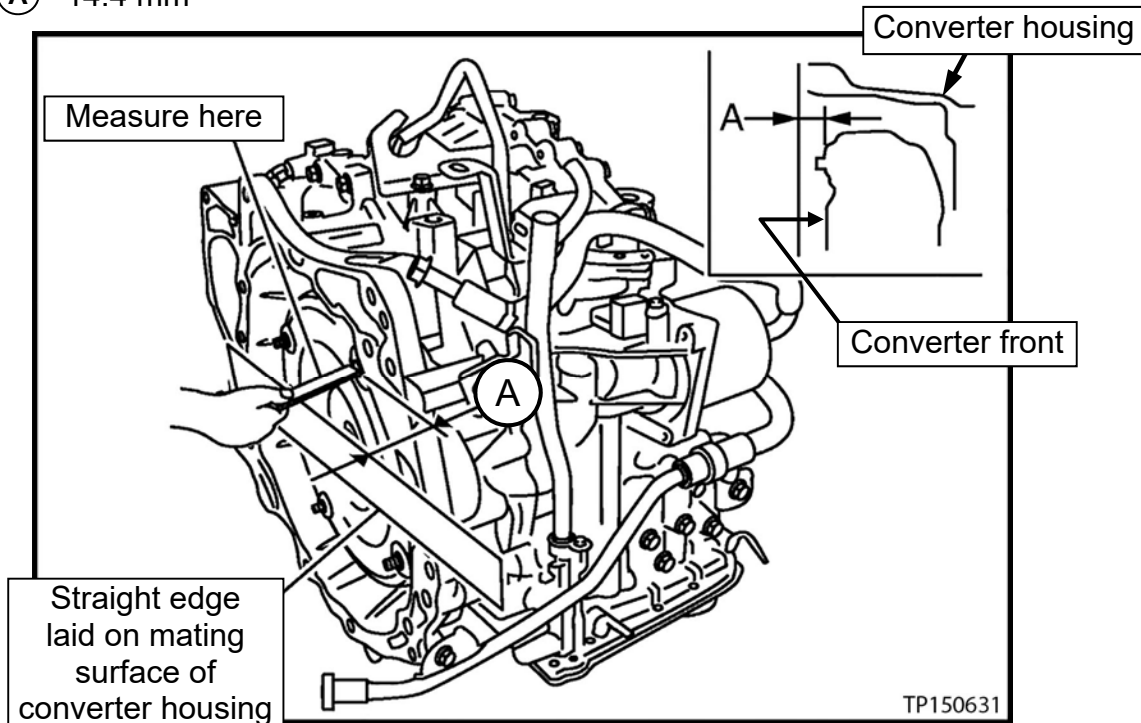

Figure 151
- Verify the torque converter is installed at the proper depth (see Figure 151).